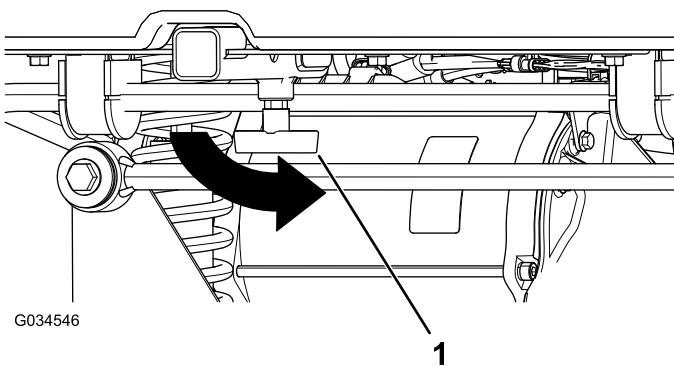

Figure 16
4. Tighten the "T" handle by rotating it counterclockwise (Figure 16).